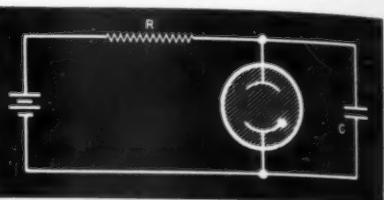
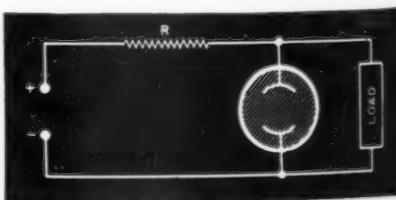

Fig. 8. Relaxation oscillator.
Fig. 9. Voltage regulator.
This can be demonstrated by building the relaxation oscillator shown in Fig. 8 using an ordinary neon bulb with the limiting resistance removed from the base, and enclosing the entire apparatus in a light tight box. The oscillations will be very erratic and will not be at all the constant oscillations seen when the apparatus is in the light. The oscillations are seen as flashes in the neon bulb provided the frequency of oscillation is slow enough.
The application of glow discharge tubes is as follows: (1) as voltage regulators, (2) as oscillators, (3) for the production of modulated light and light for display purposes such as the neon sign, (4) as rectifiers, (5) as current and power control devices, (6) as amplifiers, and (7) for the protection of meters and other apparatus against surges. Voltage regulation devices have already been discussed. A circuit for a gas-filled regulator is shown in Fig. 9. A glow tube such as a neon or argon bulb can be used to generate oscillations. A circuit for this is shown in Fig. 8. The condenser C is charged by the battery through the resistance R. As soon as the potential on the condenser reaches the value of the ignition voltage of the neon bulb, the neon bulb becomes conducting, and the condenser discharges through the bulb until the condenser voltage falls to the extinction value of the neon bulb and the discharge goes out. Then the cycle is repeated. The type of oscillations produced by such a circuit is shown in Fig. 10. An oscillator working on the above principle is called a relaxation oscillator. Details for the use of this type of oscillator can be found in any book on electron tubes.²